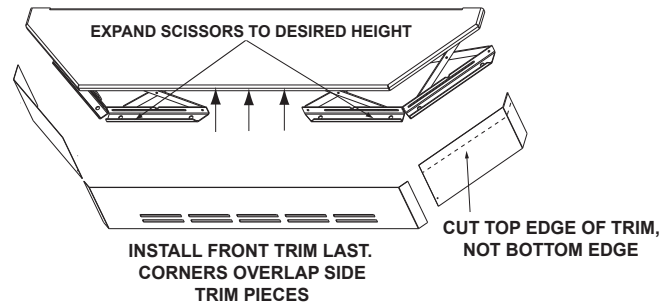

Figure 21.2
2. Expand scissors to desired height. Tighten screws to hold in place using Phillips Head screwdriver (**Figure 21.2**).
3. Measure front and side trims to required height to cover scissors and mark pieces for cutting. Cut excess material from top of trims edge, not bottom. This edge will be sharp; wear gloves to prevent injury to your hands (**Figure 21.2**).